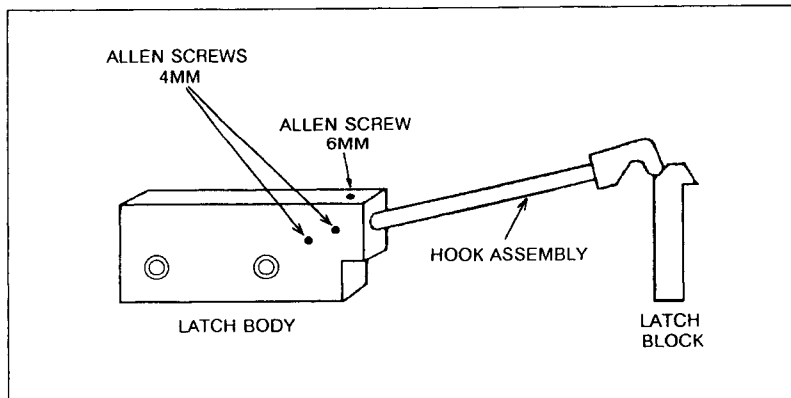

Figure 6-51. Hook Assembly
- g. Remove the hook assembly by loosening the 6mm allen screw and the two 4mm allen screws (see figure 6-51).